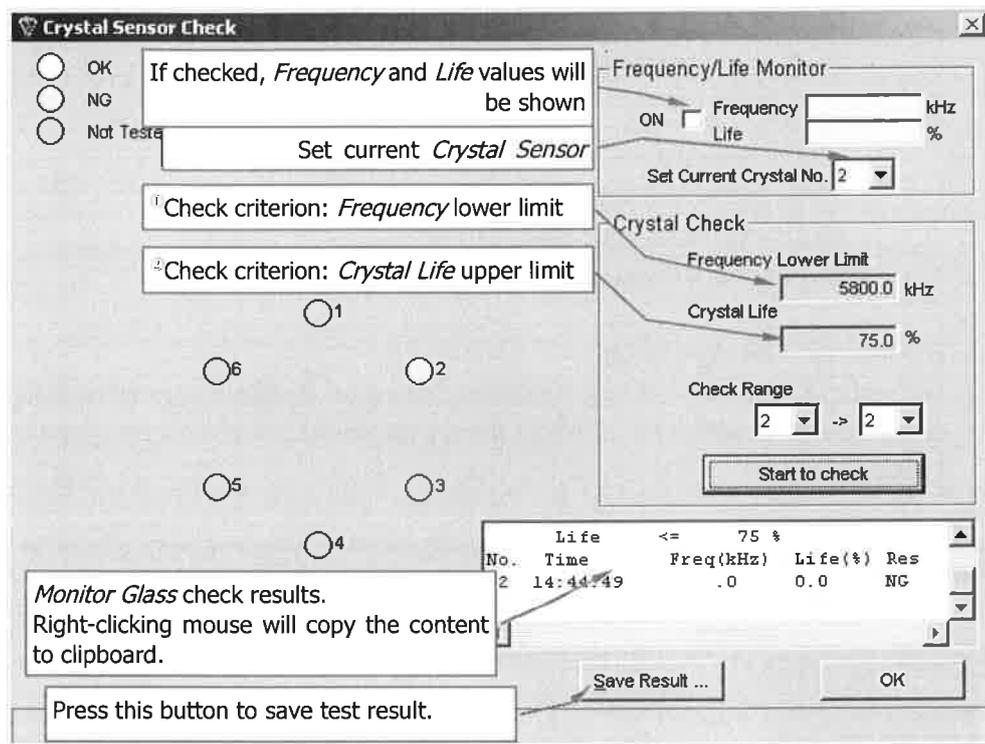

Fig. 68 Crystal Sensor Check
- Frequency > Crystal Sensor Frequency lower limit (Fig. 68)
- Life < Crystal Sensor Life upper limit (Fig. 68)
For protection purpose frequency and crystal life criteria can not be edited by default. As shown in Fig. 68 ((1),(2)), frequency and life text fields are grayed.